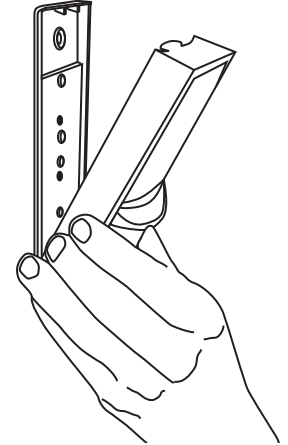
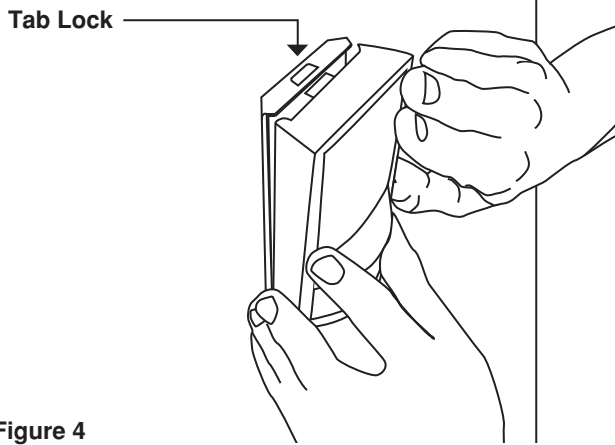

Figure 3
Figure 4
4. Fit the sensor into the groove at the bottom of the mounting plate and close the top (see FIGURE 3). The sensor snaps into the tab at the top (see FIGURE 4).